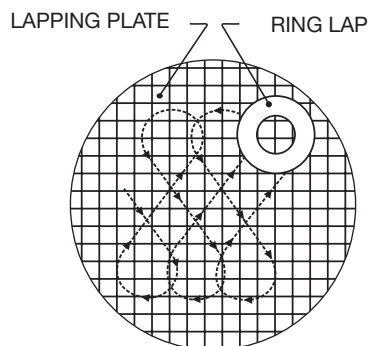

Figure 11 - Lapping Pattern
2. Always use a fresh lap. If signs of wearing (out of flatness) are evident, recondition the lap. Reconditioning of laps is accomplished by lapping them on a flat lapping plate. The lapping should be done with a figure-eight motion as indicated in Figure 11 on page 25. To assure the best results when lapping seats, the laps should be reconditioned after each usage.
6. Lap, using an eccentric, or figure-eight motion, in all directions, while at the same time, applying uniform pressure and rotating the lap slowly (see Figure 11 on page 25)